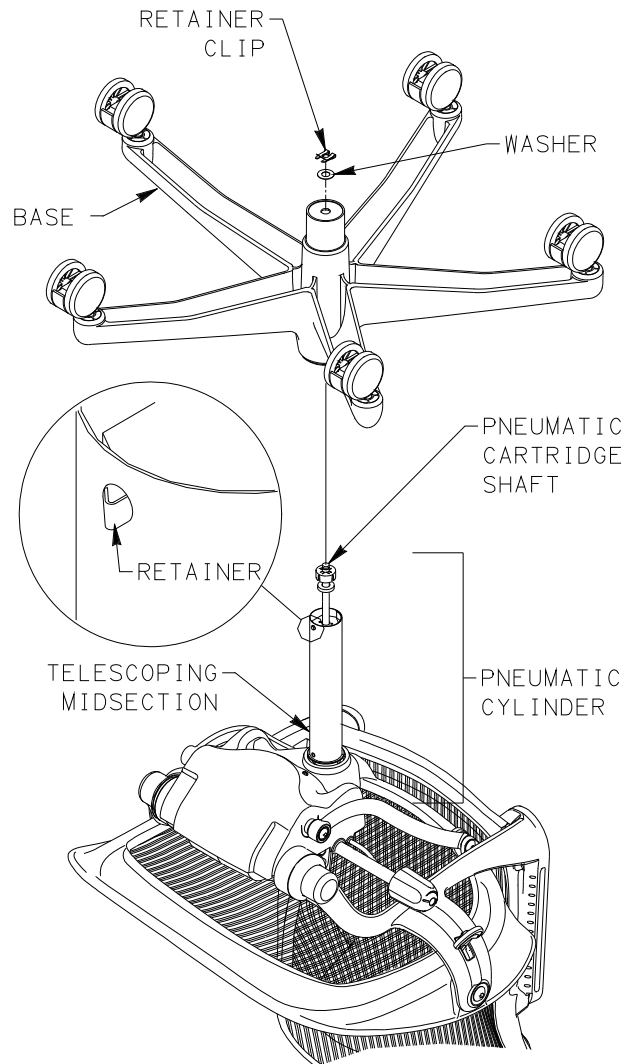

FIGURE 3
-STANDARD CYLINDER: INSTALL BASE OVER PNEUMATIC CYLINDER. SEE FIGURE 3.
DEPRESS RETAINER ON TELESCOPING MIDSECTION WHILE INSTALLING BASE OVER PNEUMATIC CYLINDER. SEE FIGURE 3.
10. INSTALL WASHER AND RETAINER CLIP TO SHAFT OF PNEUMATIC CARTRIDGE. SEE FIGURE 3.